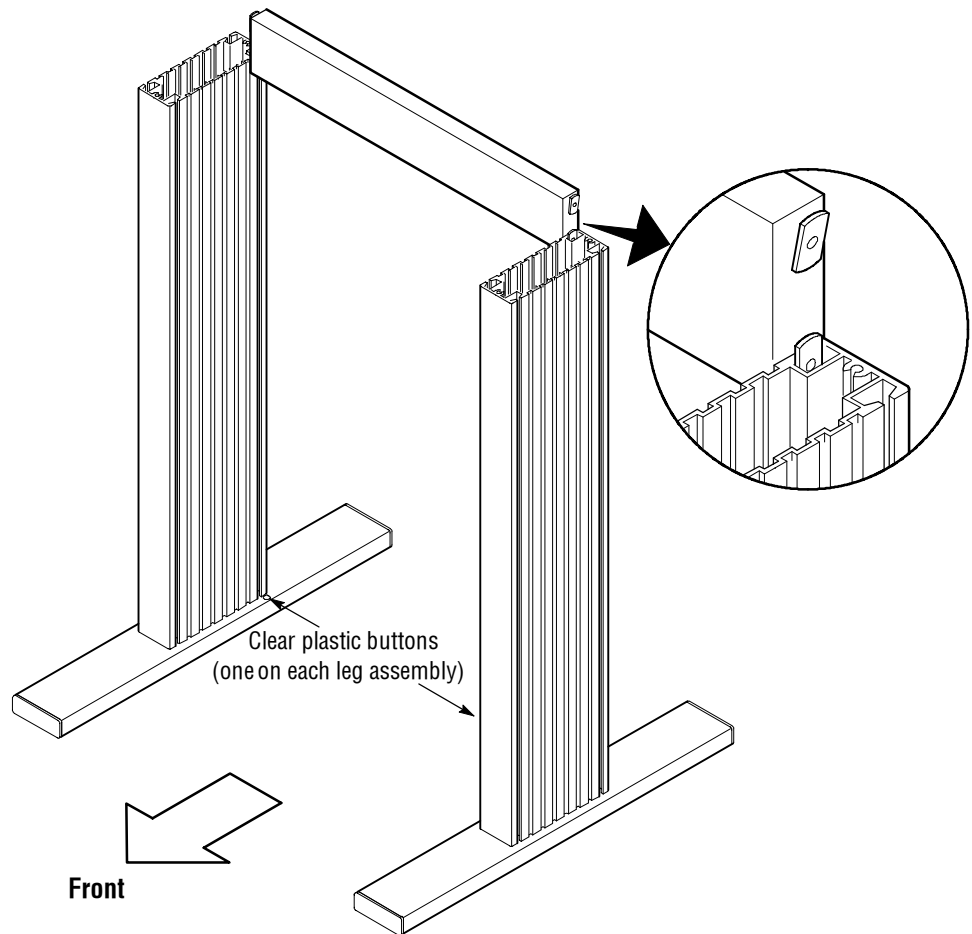

Figure 4: Aligning the Leg Assemblies and the Strut
2. On each leg assembly, observe that there is a small, clear, plastic button on the horizontal leg bar. This button is on the inside of the cart, at the back. Position the leg assemblies as shown in Figure 4. Leave a space between the leg assemblies about equal to the length of the strut.
3. Position the strut horizontally between the leg assemblies, as shown in Figure 4, with the open side of the strut to the back. Line up the weld nuts with the back groove in the leg assemblies.